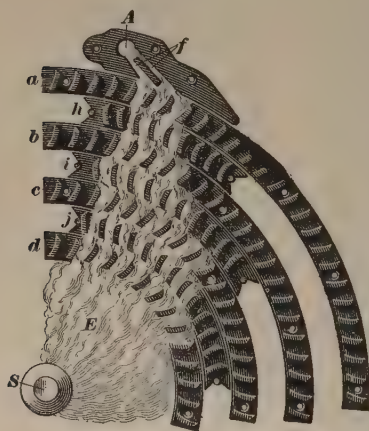

FIG. 2
4. By referring to Fig. 2, the manner in which the steam acts on the wheel can be seen. This view shows a section of one-quarter of the wheel, cut through from the outer edge to the center, the back half of the turbine being removed in order that the rows of buckets *a*, *b*, *c*, and *d* may be observed. The appearance and construction of the stationary exhaust passages *h*, *i*, and *j*, which direct the steam against their respective rows of buckets, are also shown. The final exhaust chamber *E* encircling the main shaft *S*, the admission port *A*, and the steam ports or passageways *f* in the governor stand 35 are shown. Diametrically opposite the steam inlet *A* and the exhaust passages *h*, *i*, and *j*, there is another steam inlet with a corresponding set of stationary
exhaust passages. The steam thus acts at two diametrically opposite points on the wheel, hence the wheel is in perfect balance; this arrangement eliminates those shocks found in an engine having reciprocating parts, the main shaft bearings carrying only the weight of the revolving parts. The general direction of the steam in its passage from port *A* to the exhaust chamber *E* is shown in Fig. 2.